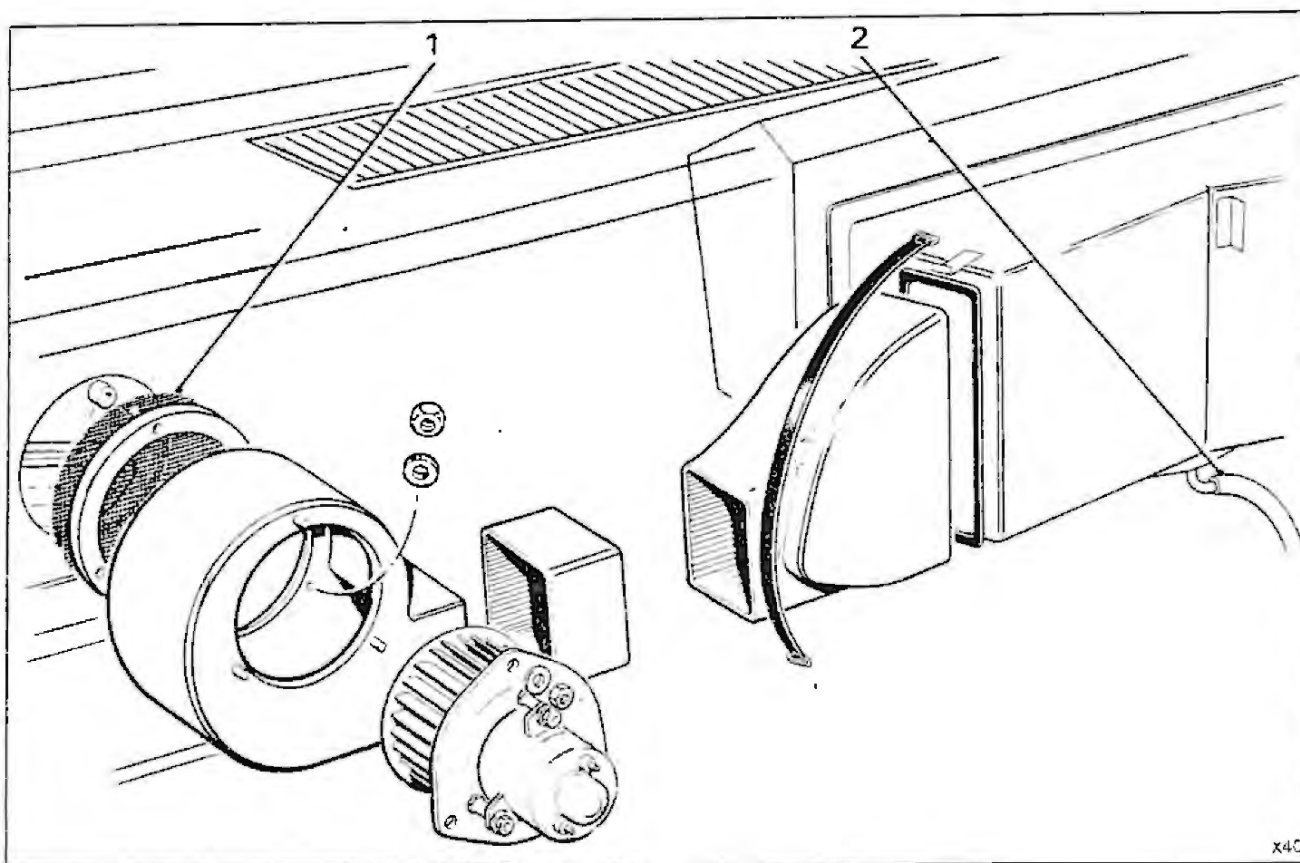

Fig. 1.
4. Locate the evaporator box drain pipe (see fig. 1, item 2) and remove any debris that may be causing a blockage.
9. Fit a pair of filters between the bulkhead and fan housing as shown in figure 1, item 1.